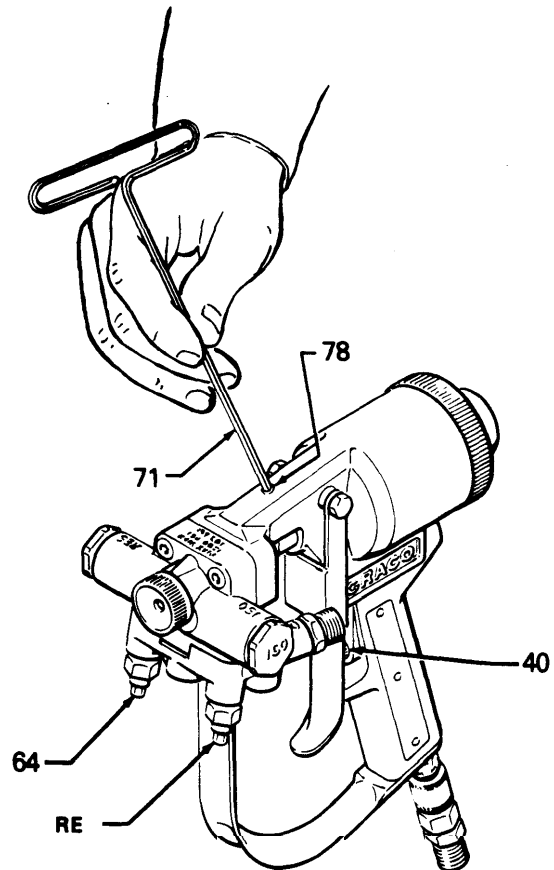

Fig 23
To reduce the risk of an injection injury: Before adjusting the **cleanoff** air, engage the trigger safety (40), close the needle valves (64), disengage the trigger safety and trigger the gun to relieve the fluid pressure. Engage the trigger safety again. See Fig 23.
- Screw in the **cleanout** hole setscrew (72) using the Allen wrench (71) until no air or almost no air is escaping. See Fig 23.